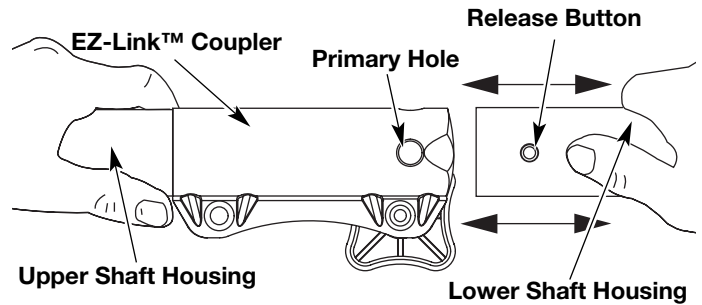

Fig. 10
2. While firmly holding the add-on, push it straight into the EZ-Link™ coupler (Fig. 10).
3. While firmly holding the upper shaft housing, pull the cutting attachment or add-on straight out of the EZ-Link™ coupler (Fig. 10).
CAUTION: Lock the release button in the primary hole (Fig. 10) and securely tighten the knob before operating this unit.